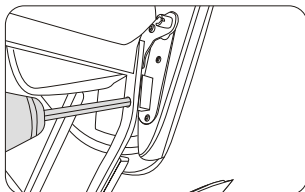

Figure 7
- Unscrew the screw on the front-end of armrest (note: the screw is in the side of steel frame). (figure 7)